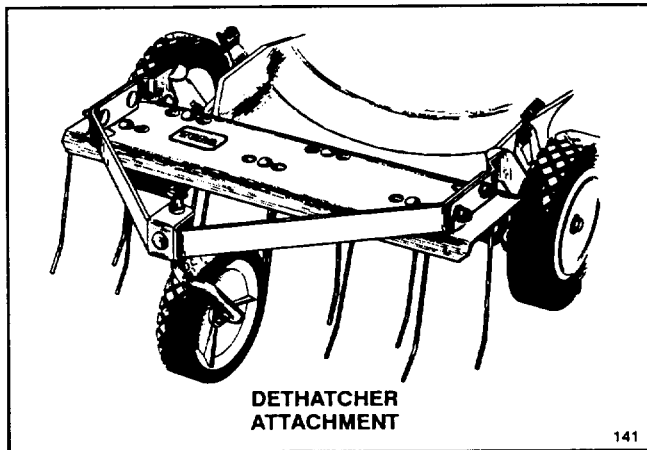

Figure 27
1. **Dethatcher Kit, Model No. 59131**—Installs in minutes. Front mounted for easy maneuverability. Spring tines loosen thatch for clean vacuuming into grass bag (Fig. 27) and convenient disposal.